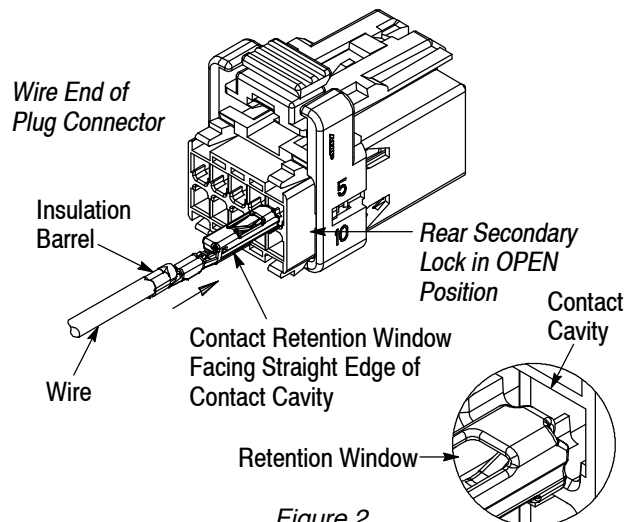

Figure 2
2. Grasp the wire of the terminated contact approximately 19 mm behind the contact insulation barrel. Align the contact with the desired contact cavity at the wire end of the plug connector, orienting the contact so that the retention window is facing the straight edge of the contact cavity. See Figure 2. Push the contact straight into the contact cavity until it bottoms (there will be an audible "click").